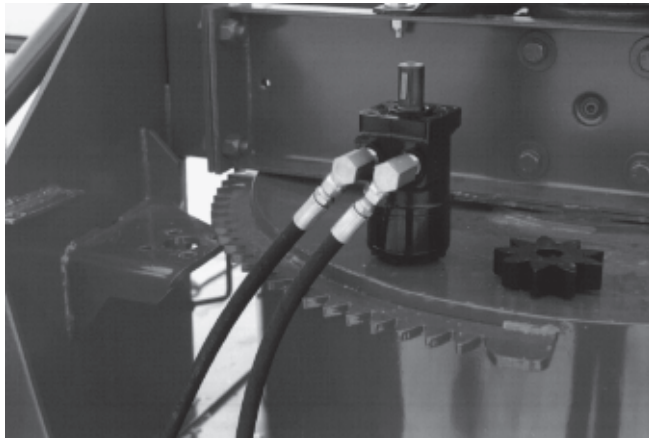

Figure 19
- 2) Install elbows on the hydraulic motor using tefton tape for a leak proof connection. Orient the elbows as shown (Fig. 19).